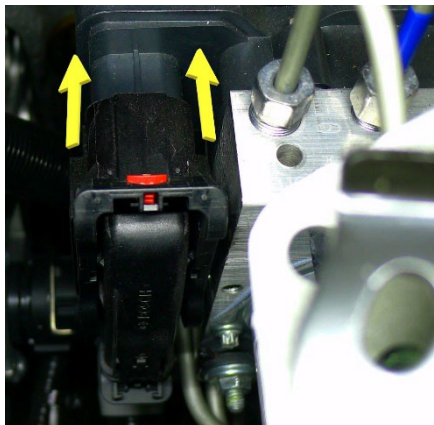
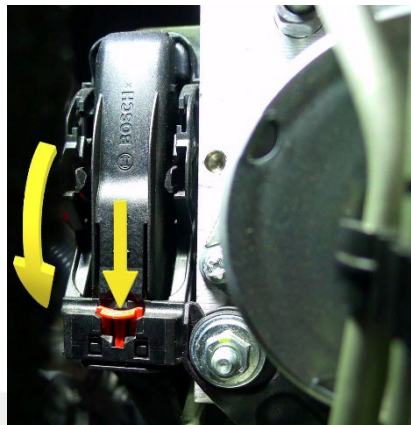

Figure 27
Figure 28
22. Attach connector X151 to the HCU (Figure 27), lower the lever, and then slide the red locking tab (Figure 28).